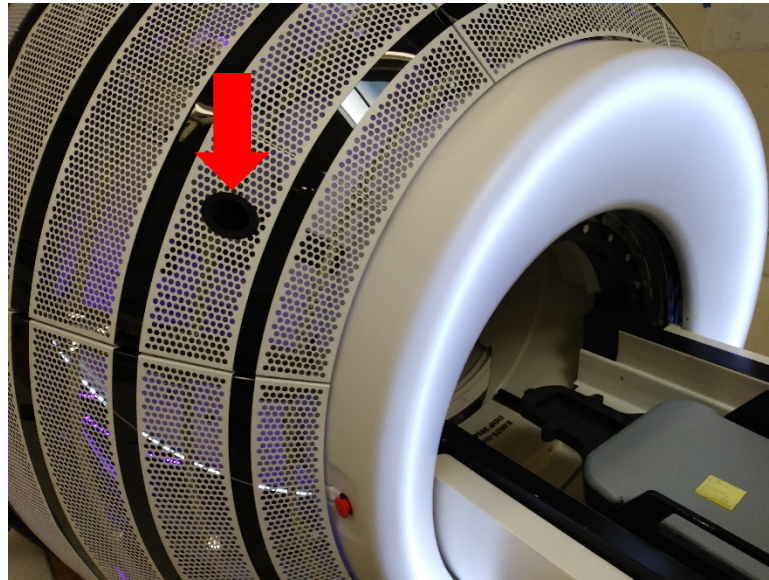

Figure 3-18 Location port for passing cables into the Zap-X System.
7. Carefully pass the ion chamber into the machine through the cable access hole near the door, being sure to provide enough cable to ensure proper operation (see Figure 3-18).
5. Carefully pass the necessary cables through the appropriate ports on the system (see Figure 3-18).